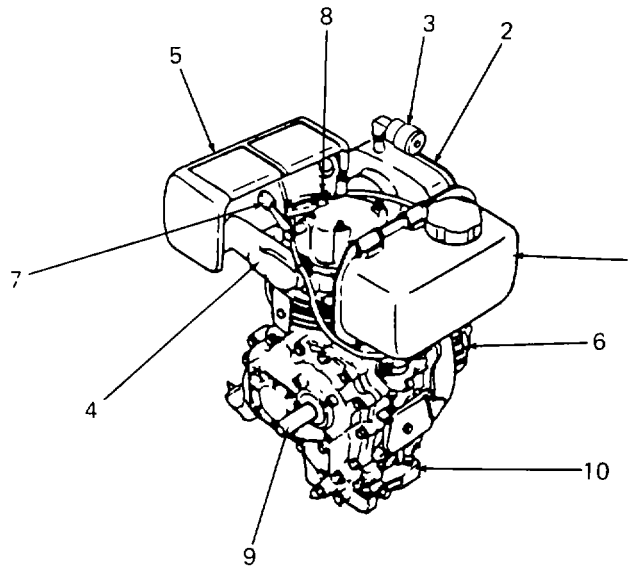

Figure 1-5. Diesel Engine, Major Components and Principles of Operation
a. Diesel Engine Major Components (See Figure 1-5).
(1) Diesel engine fuel system
- (a) A fuel tank (1) is attached to the engine to provide fuel during operation.